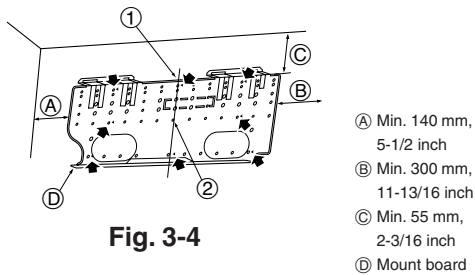

Fig. 3-4
- ▶ The mounting fixture must be secured at both ends and at the centre, if possible. **Never fix it at a single spot or in any nonsymmetrical way.** (If possible, secure the fixture at all the positions marked with a bold arrow.) (Fig. 3-4)